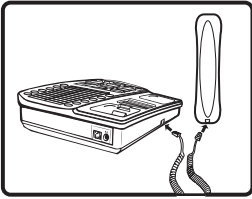

Figure 3
3. Plug one end of the modular coiled handset cord into the handset. Plug the other end into the jack located on the left side of the telephone. Place the handset in the cradle. See Figure 3.